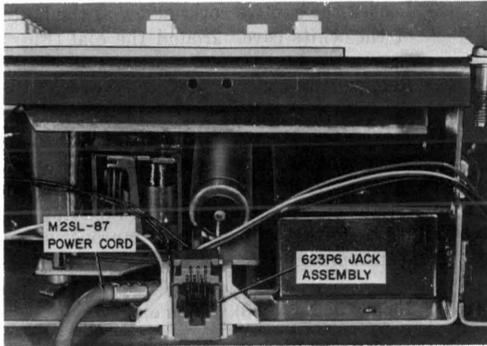

Fig. 6—870A2M Telephone Set, Partial View With 623P6 Jack
- (1) Remove the housing (3.20) and access the PSB terminals (3.17).
- (2) Remove D6AD-87 mounting cord.
- (3) Install the 623P6 jack as shown in Fig. 6.
- (4) Connect the spade-tipped jack leads as follows: